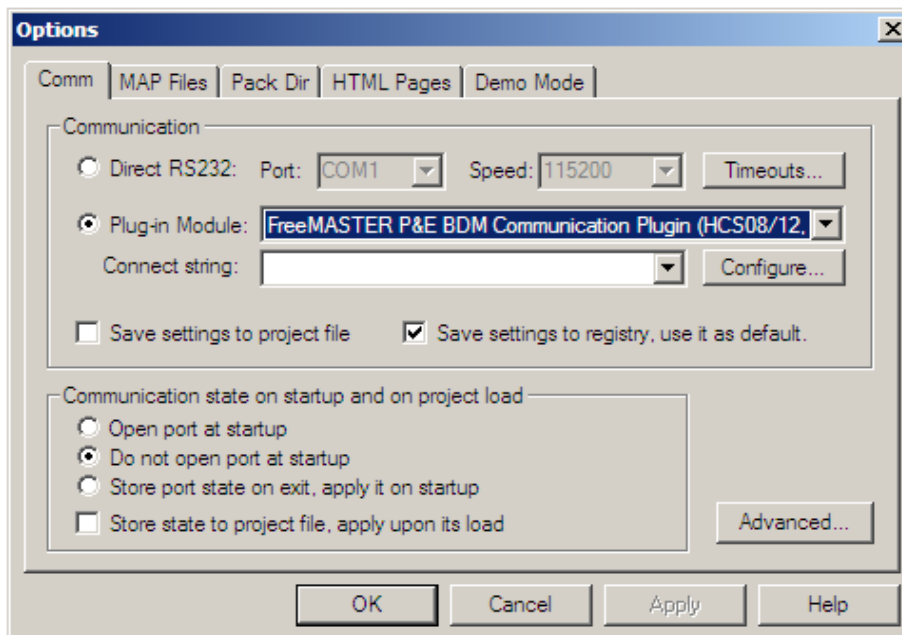

Figure 7-4. Plug-in Module in Communication options
- User-defined communication via the FreeMASTER plug-in module. Tool supports P&E BDM Communication Plug-in for HCS08 and CFV1 (as shown in Figure 7-4) and JTAG communication for Kinetis platforms.